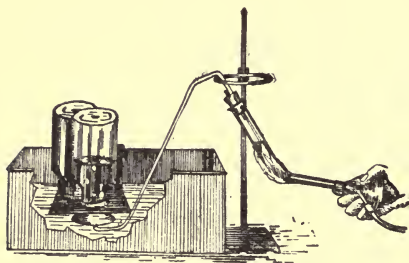

Fig. 13.
Fill 4 or 5 wide-mouthed bottles—recs.—with water, invert them on the shelf of a p.t. in which the water is 3 or 4cm above the shelf. Mix on a paper 5 or 10g  $\text{KClO}_3$  (not pulverized) and 3 or 4g of powdered  $\text{MnO}_2$ . Put the mixture into a large dry t.t. which should not be over  $\frac{1}{3}$  full. Adjust a stopper and d.t. and hang the app. on a r.s. (Fig. 13). Direct a
*Supplementary.* — Gases burn with flame. Solids glow. What has the destructive distillation of wood in I. done? Cpds. of C and H (called hydrocarbons) are solid, liquid, or gaseous. (a) Try to obtain carbon in any other way. (b) Hold a piece of charcoal in water for a minute. (c) Weigh a piece of wood, then distil it, and finally weigh the product. (d) Put some small pieces of wood into an i.t., attach a d.t. and heat. Collect the gas (Fig. 13). (e) Test the gas.